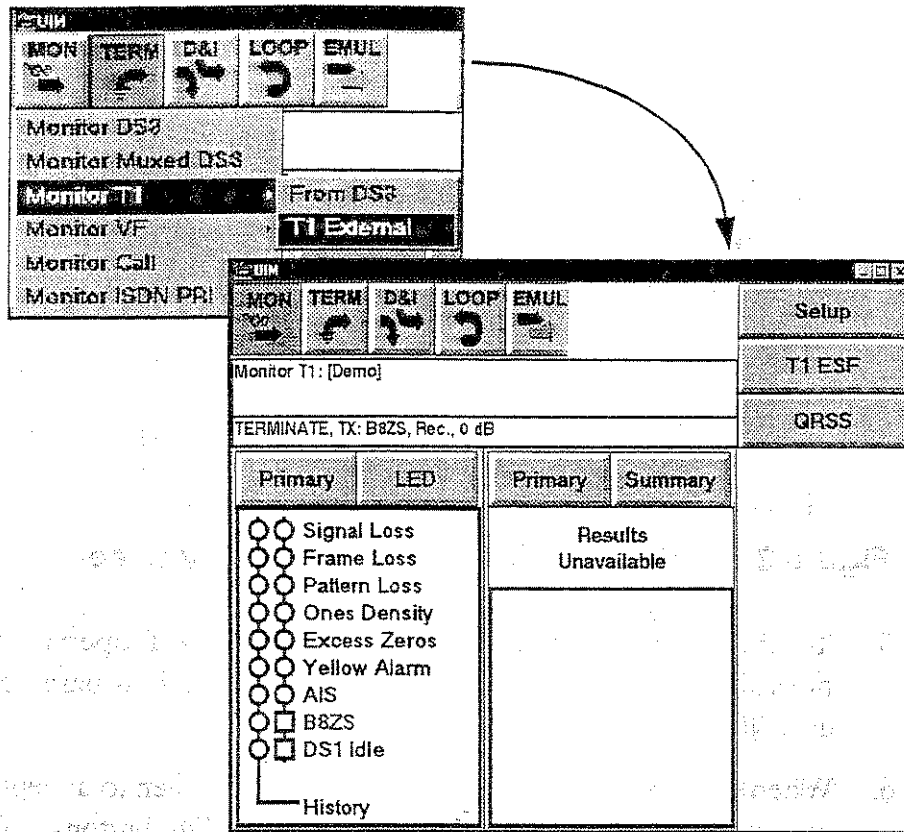

Figure 2-9. Choosing an Application
2. Select an application from the list of application choices in the pulldown menu that appears when the icon is selected. The T-BERD 2209 configures a default setting for the selected test. Figure 2-9 represents choosing an application for Monitor T1 setup.